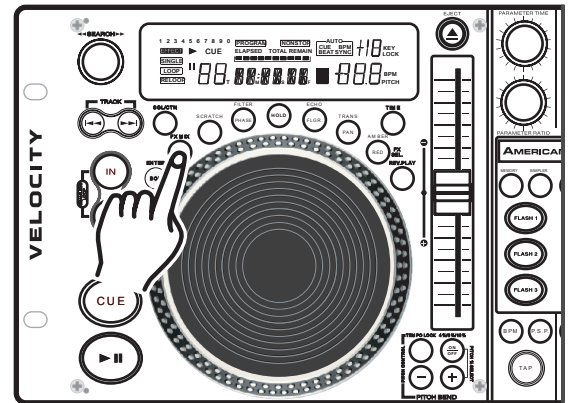

Figure 64
STEP TWO: Select the FX MIX BUTTON (13) to activate the FX Mix Mode as in figure 64.